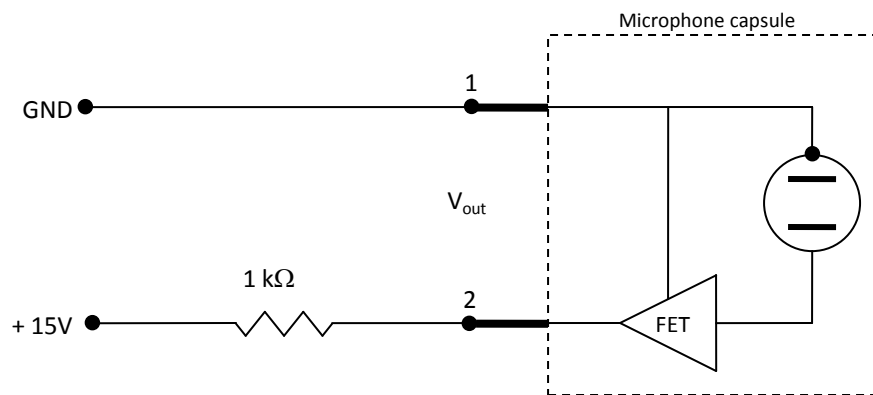
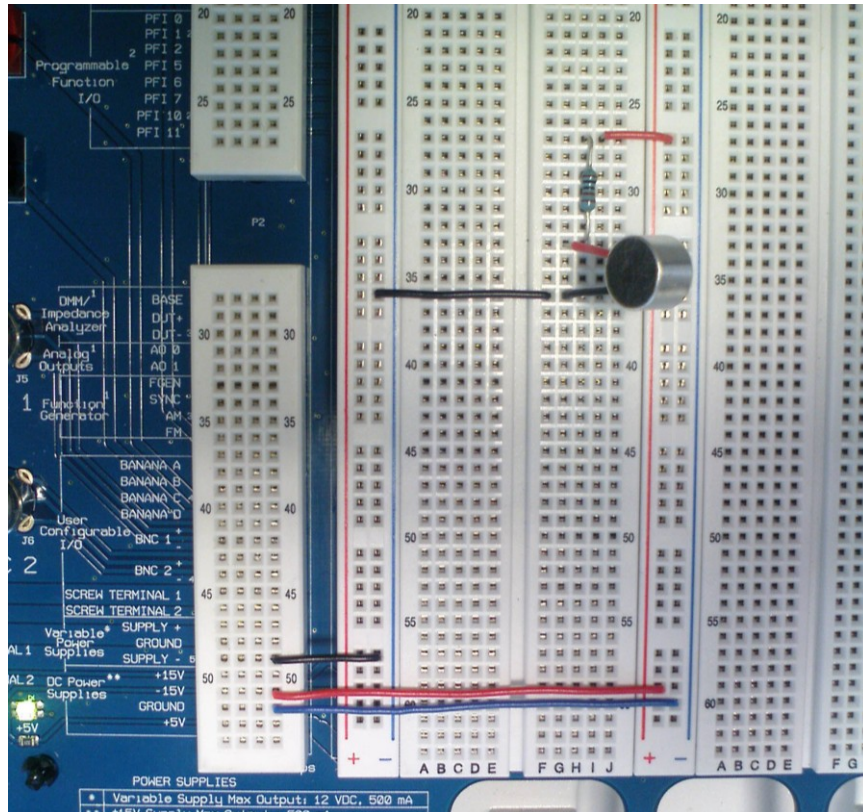

Figure 3-1, Electret Microphone – Circuit Diagram
Figure 3-2, Electret Microphone – Circuit Implementation
- Wire up the Electret microphone on the prototyping board according to Figure 3-1 and Figure 3-2. Figure 3-2 gives you an indication of where to place the circuit on the board (you will use the rest of board to build other circuits) and what it should look like. Your circuit needn't be a replica of that in Figure 3-2, however **remember to keep the circuit tidy by having short wires and routing them logically**
- Use either the Tektronix or ELVIS scope to observe the microphone output waveform available between GND and point (2) in the circuit. Make use of the BNC connectors on the prototyping board. **Make sure you set the scope input coupling to DC.**